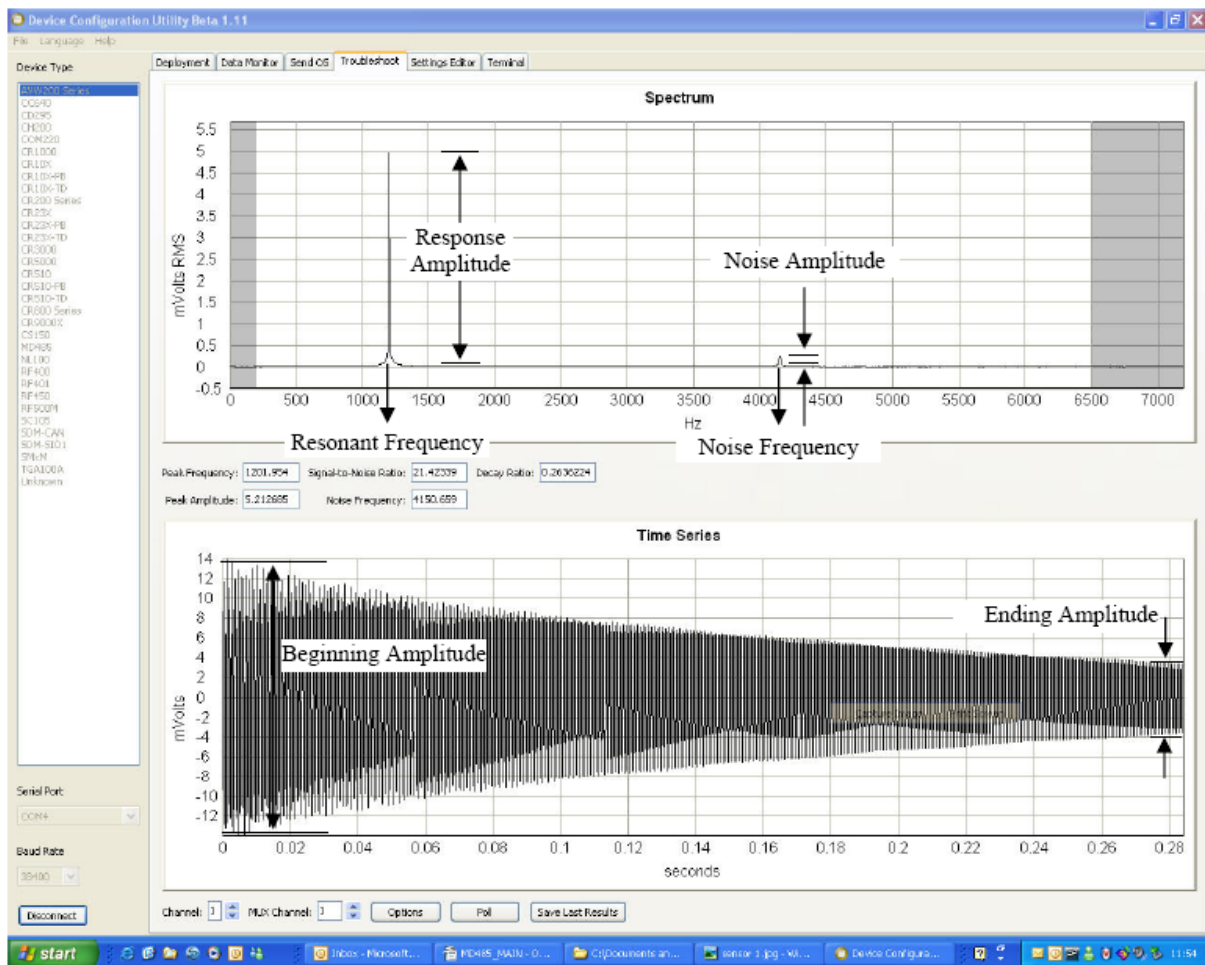

Figure 5.5-3. Graphs for Evaluating Spectral Analysis of a Sensor
5. Once the appropriate settings have been specified, click OK on the Options window and click the Poll tab at the bottom of the Troubleshoot window. The results of the Poll will be displayed on a Spectrum graph and a Time Series graph (see Figure 5.5-3).
In Figure 5.5-3, the bottom graph shows the raw time series data recorded from a vibrating wire sensor after the sensor has been excited with the frequency swept voltage signal and the top graph shows the spectrum after the AVW200 has applied the FFT. In addition to the wire's resonant frequency, the spectrum shows the response amplitude, noise amplitude, and noise frequency. The AVW200 computes the signal-to-noise ratio diagnostic by dividing the response amplitude by the noise amplitude. The AVW200 computes the decay ratio diagnostic from the time-series ending amplitude divided by the beginning amplitude.